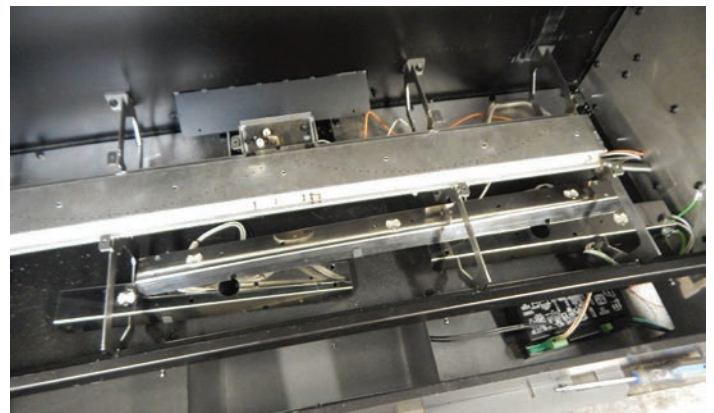

Figure 8
11. Continue installing the Center Light bracket through the center/right burner bracket until there is enough room to feed the Left Light Bracket through the center/left burner bracket. Shift the Left Light Bracket to the left so it rests in the left end burner bracket. **See Figure 8.**